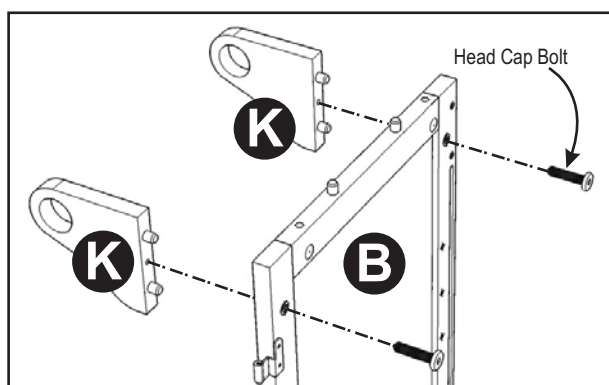

Figure 3
Attach Arms (K) to Side Panel (B) with Head Cap Bolts. (See Figure 3)